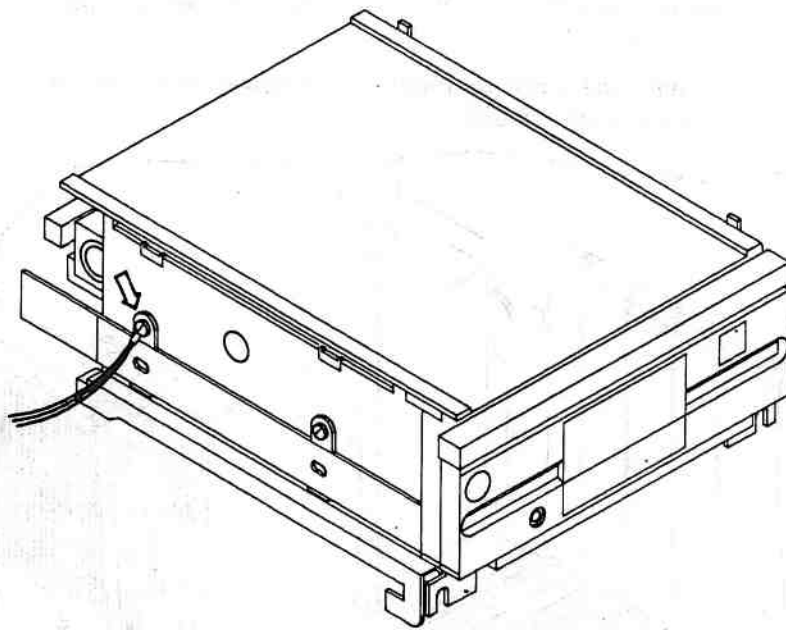

Figure 5-51. Removing the Drive Assembly Ground Strap
6. Remove the screw that secures the ground strap to the side of the drive assembly (Figure 5-51).